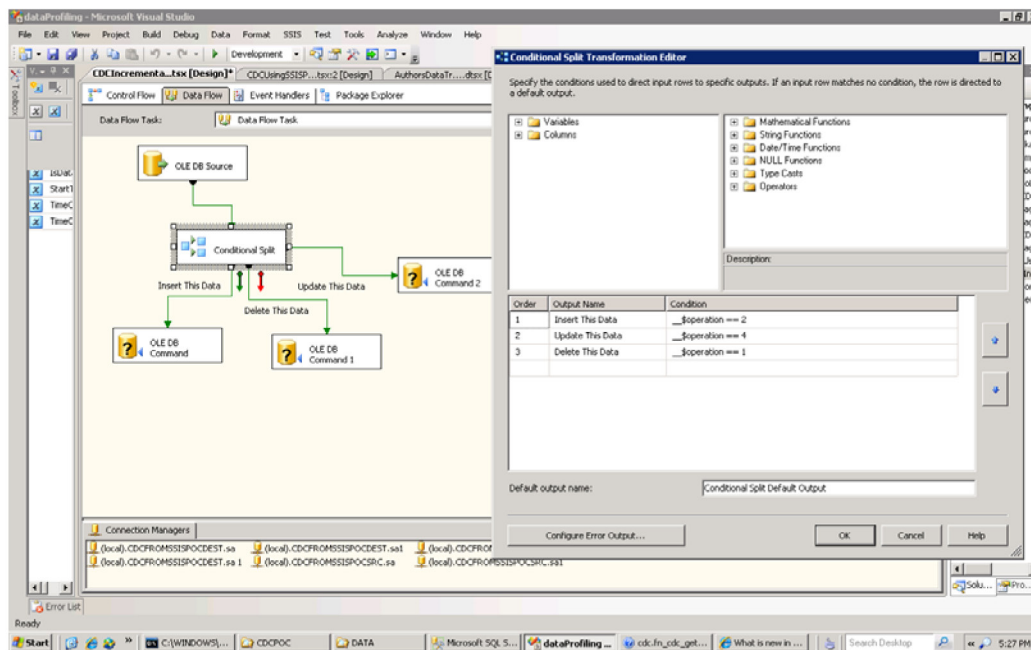

Figure 3: DataFlow Task
4. The configured Data Flow task should look as attached in the Figure 3: DataFlow Task.